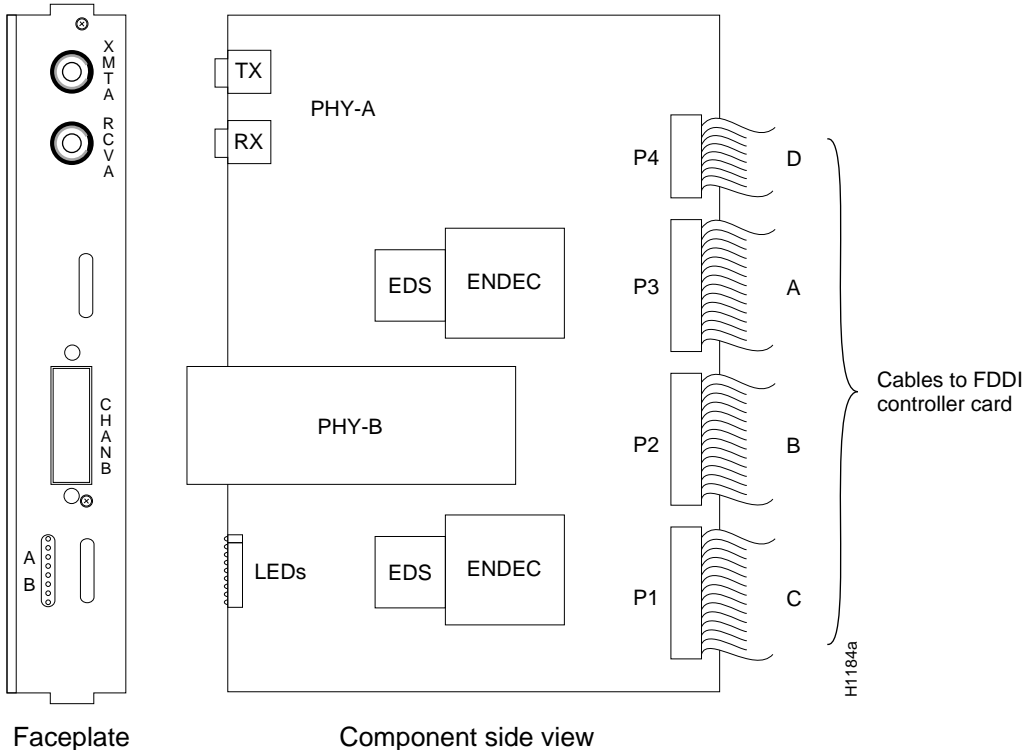

Figure 4 Single-Mode/Multimode Appique—APP-LSM
- PHY-A single mode, PHY-B multimode (APP-LSM), Figure 4